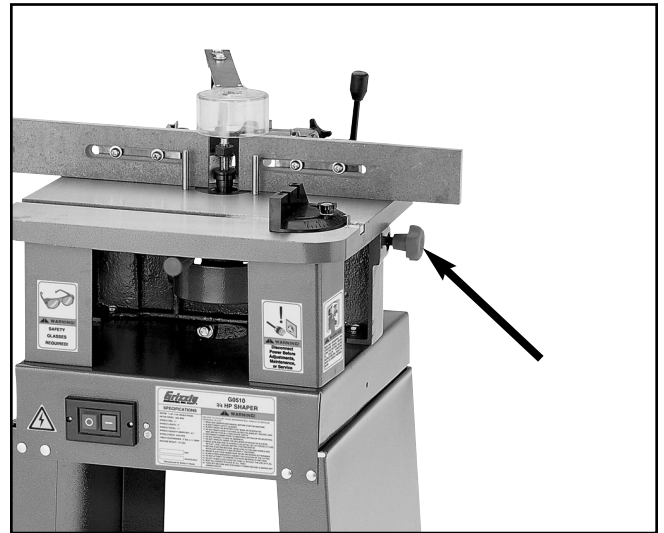

Figure 11. Spindle height lock knob.
1. Loosen the spindle lock shown in **Figure 11**.